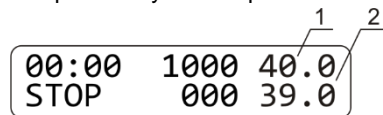

Figure 6. Display after calibration:
6.5. The display will show calibrated temperature as shown on fig. 6/1 and the unit will continue thermal stabilization according to the previously set temperature.